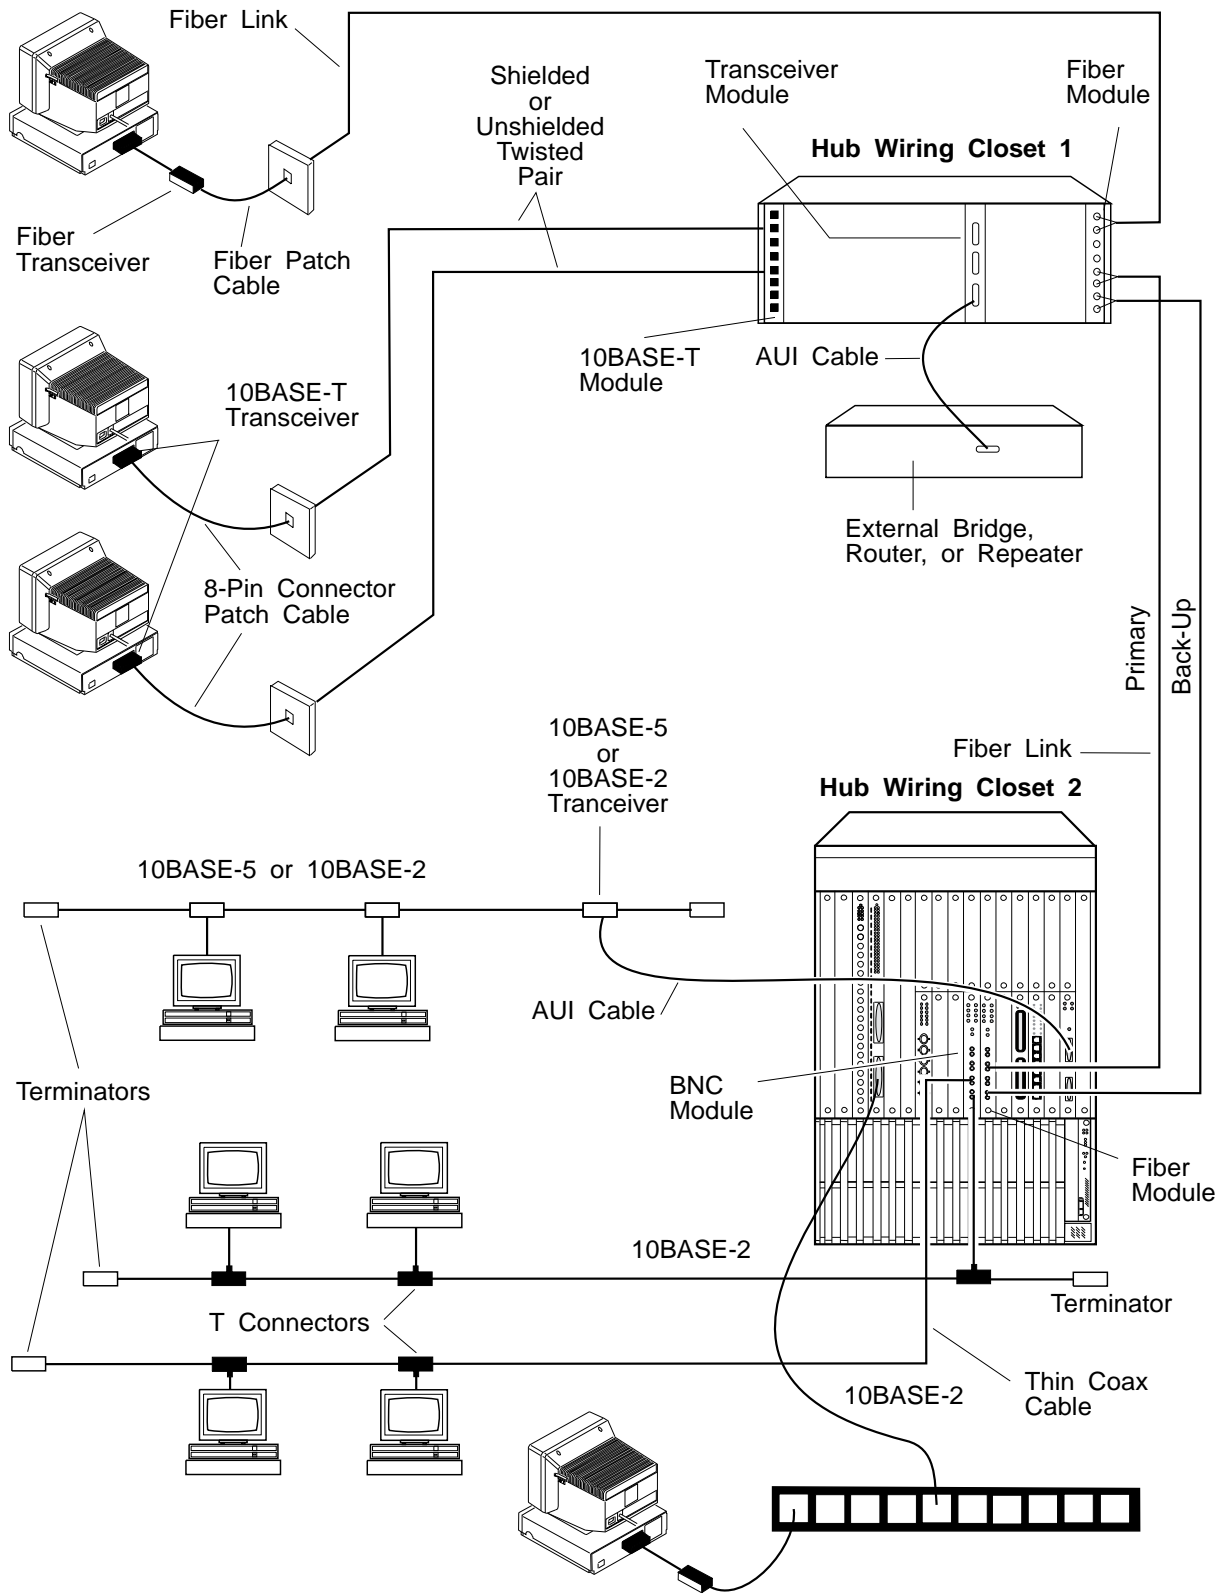

Figure 2. Overview of the Network Layout
The IBM 8250 and 8260 have many features and accessories to build sophisticated Ethernet networks or to expand networks that are already installed. To illustrate this, Figure 2 on page 10 shows one possible usage of 8250 features to build a complex Ethernet network. See Appendix B, "Cabling and Offerings" on page 205 for references to connection pin layouts and IBM cables.
**Note:** When using a 10BASE-T module with a TELCO connector, only unshielded cabling is allowed. Also, a fanout patch panel is necessary to split the various lobe cables (not shown in Figure 2 on page 10)
**Note:** For additional reliability, a workstation can be linked using two fiber links, running from the office area to one or multiple hubs. The fault tolerant transceiver (not shown in Figure 2 on page 10) is used for that purpose. It connects two fiber links on one end, and the AUI cable on the other end.
- Here, the BNC module connects two 10BASE-2 segments, to form a single Ethernet network (single broadcast space). The BNC module also acts as a repeater to restore the signal. In Figure 2 on page 10, the ports on the BNC module are used in two different ways:
In the above example, we assumed the use of fiber modules and transceivers. Nonetheless, the configuration shown in Figure 2 on page 10, remains valid when we substitute 10BASE-FL (or FOIRL) modules for fiber modules and 10BASE-FL (or FOIRL) transceivers to fiber transceivers.